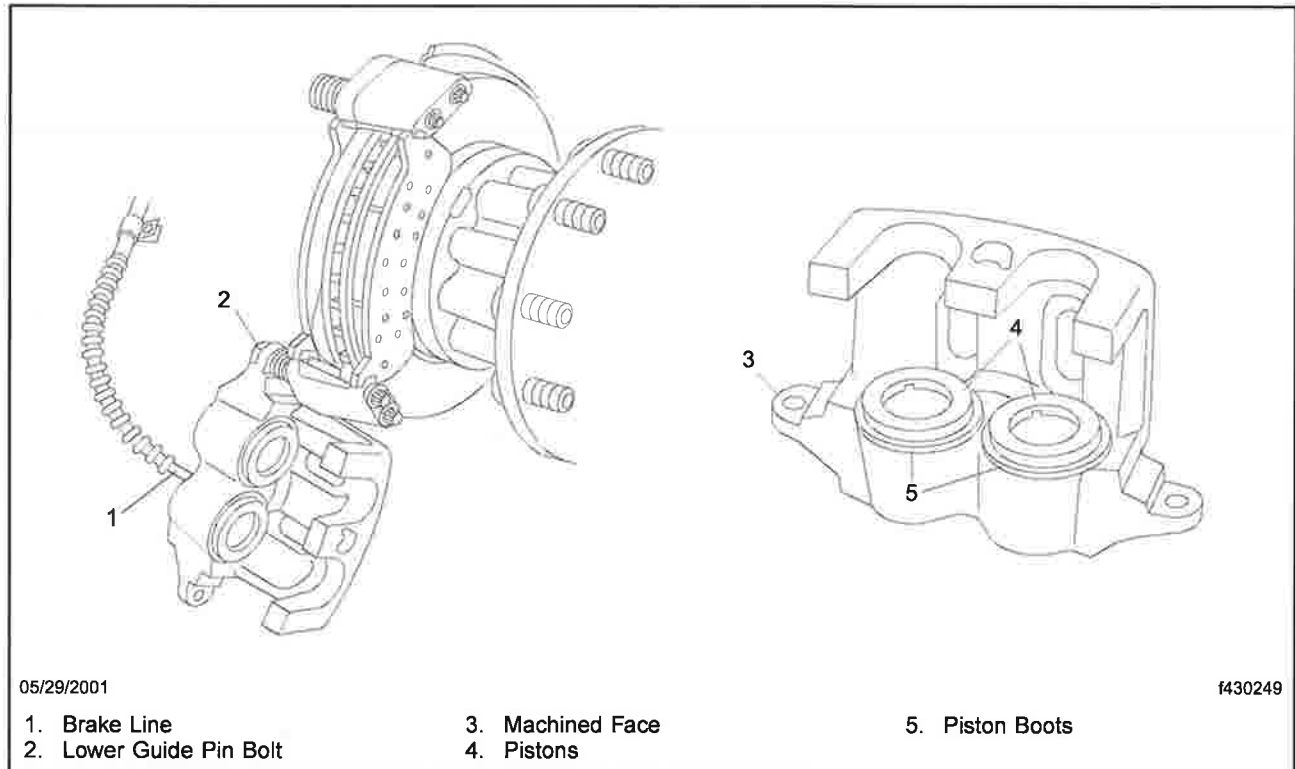

Fig. 5, Removing the Caliper from the Anchor Plate
8. Disconnect the brake fluid line from the caliper. See Fig. 5.